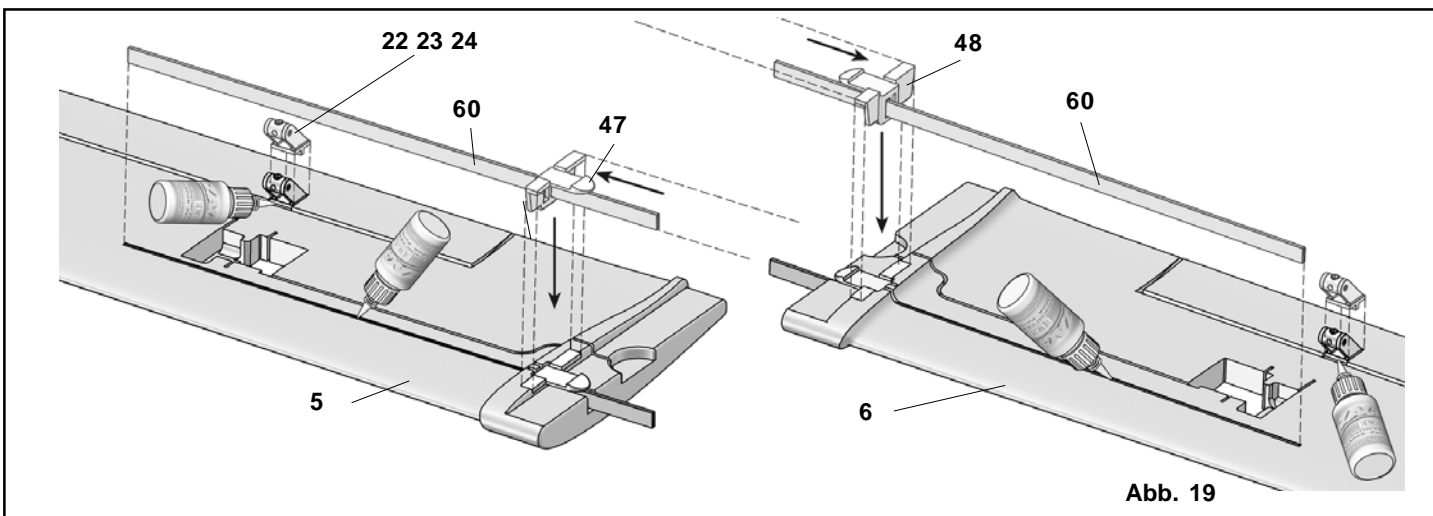

Abb. 19
5.1 Installing the wing spars and wing retainers, Fig. 19